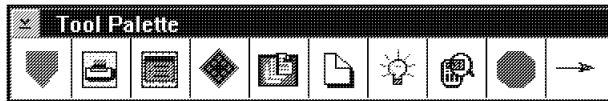

Figure 28. Tool Palette Window
- The Tool Palette window contains the tools that you need to lay out the diagram that defines your work process, as shown in Figure 28 on page 57.